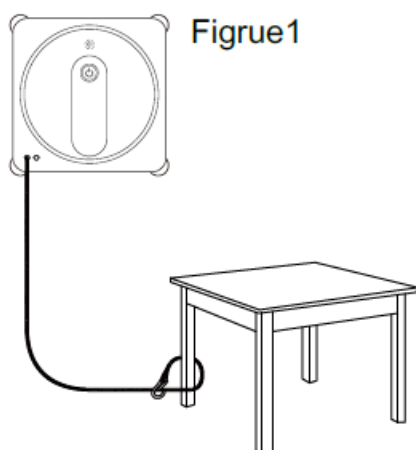

Figure 1
1. Before using this product to wipe the glass, make sure again that the safety lock is tied to the bracket that will not move. Such as table legs, bed legs, sofa legs, stairs, etc., and lock the safety locks to avoid danger. Refer to Figure 1.